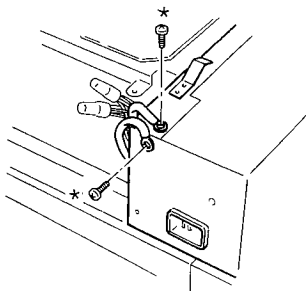

Figure 4-3-37
2. The scanner motor is weak under an axial load. (See Figure 4-3-37.) Avoid any axial load on the scanner motor during reassembly. If the scanner motor is subjected to an axial load because of being dropped, replace it with a new one.